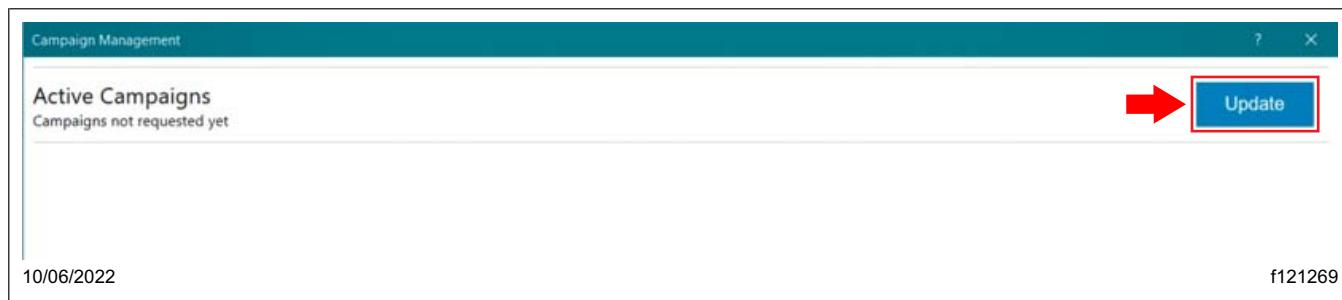

Fig. 9, Selecting Update
18.2 Select 'Update.' The list of active campaigns corresponding to the VIN, if any, will be displayed. See **Fig. 9.**